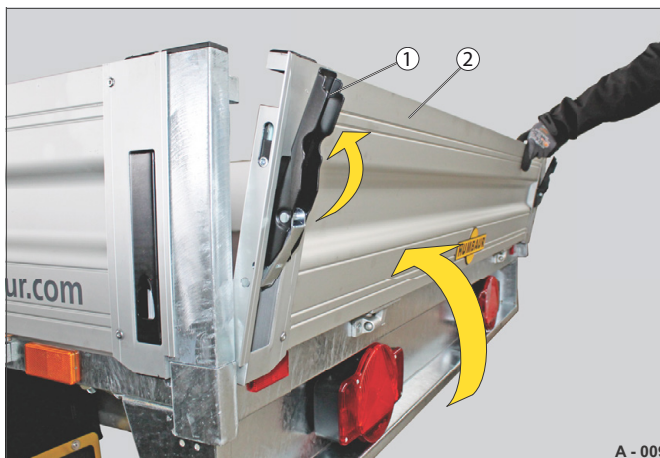

Fig. 12 Close drop side (e.g. HA, HT)
- Open the locks as required (Fig. 12 /1).
- Fold up the drop side (Fig. 12 /2) - keep your hands away from the closing edges.